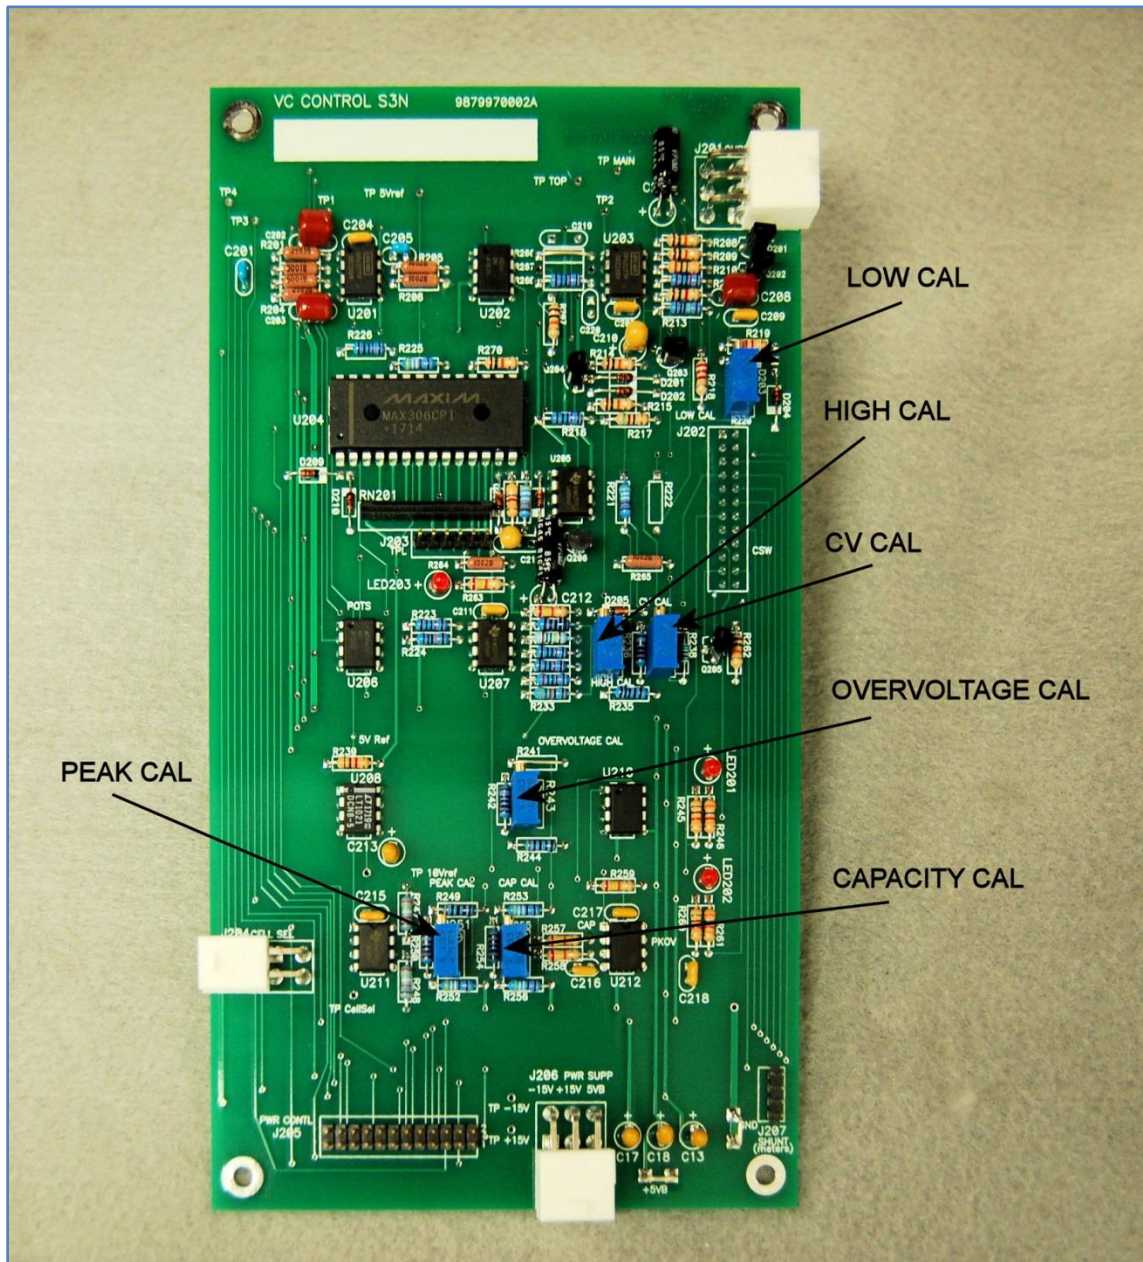

Figure 7 – Voltage/Current Control Board Adjustments
- 11.7.4. See [Figure 7] for adjustments
- 11.8.4. See [Figure 7] for adjustments
11.10.8. See [12.2.3] and [Figure 7] for adjustments
11.11.1. See [Figure 7] for adjustments.
12.2.3. VOLTAGE/CURRENT CONTROL. See [Figure 7].